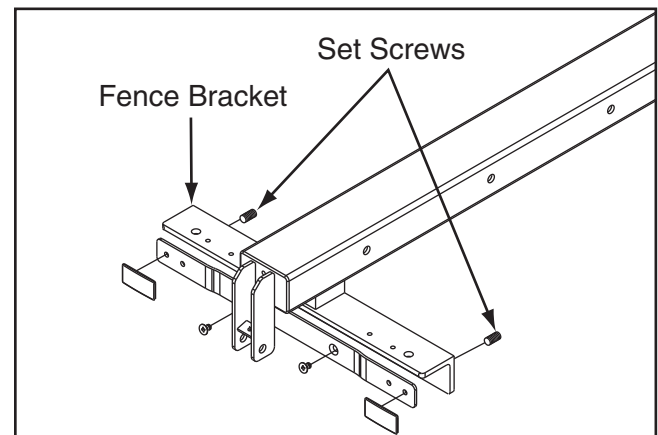

Figure 139. Location of set screws used to adjust fence parallelism and clamping pressure.
2. Remove the fence, equally adjust the set screws shown in **Figure 139**, then re-install the fence and check the clamping pressure. Re-adjust as needed until the fence will not move as pressure is applied against it.